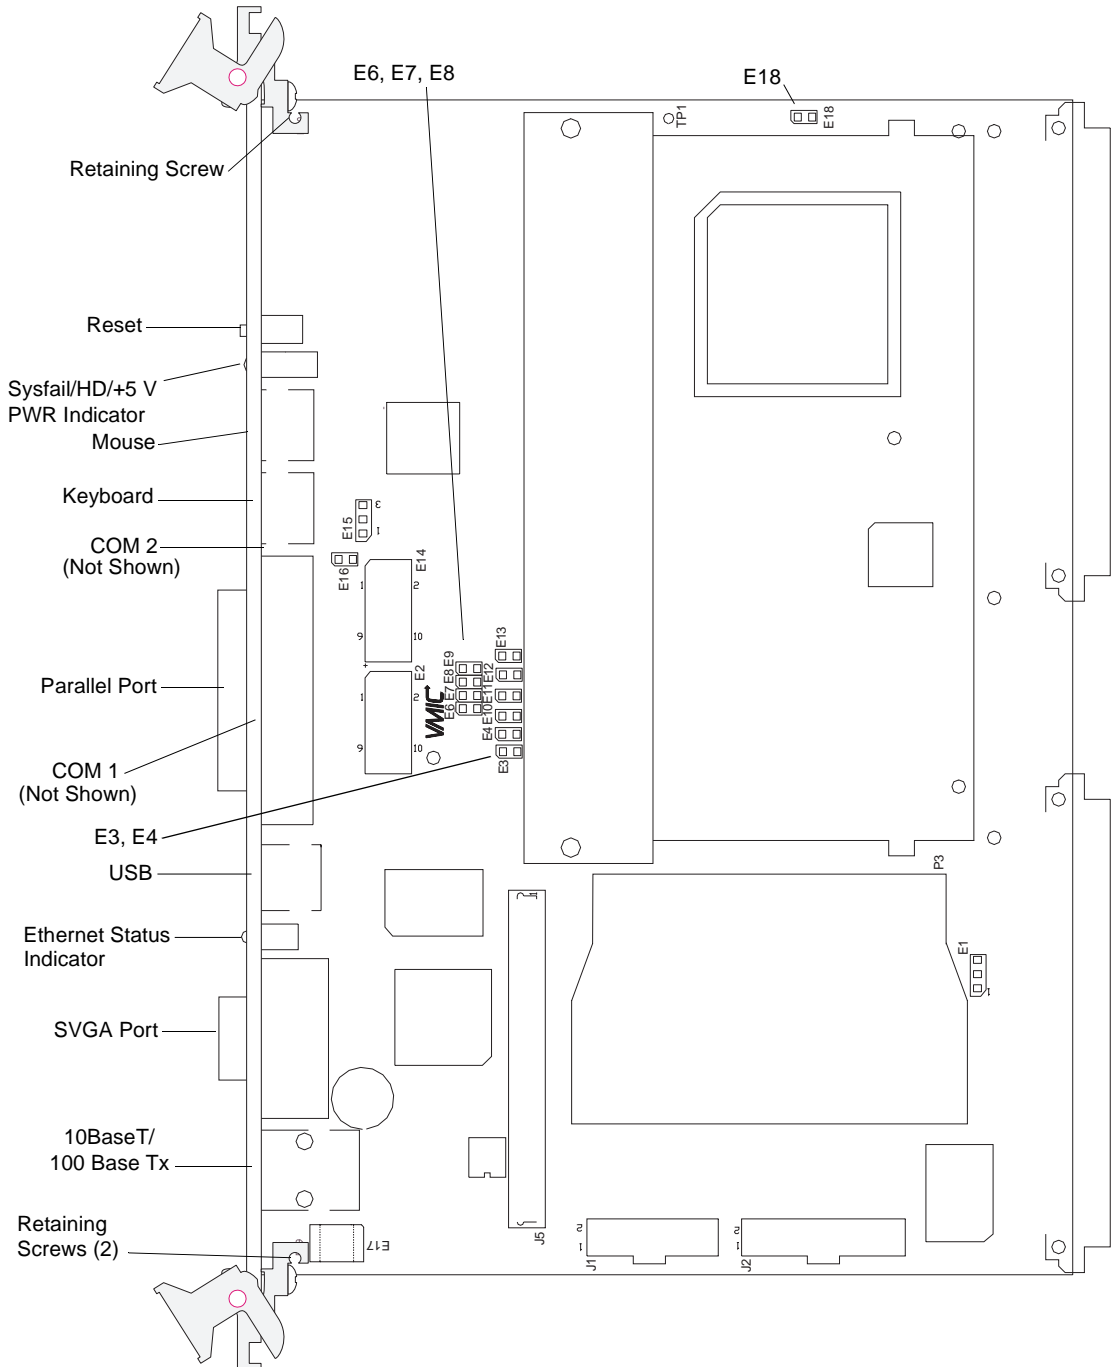

Figure 2-1 VMIVME-7696 CPU Board, I/O Port, and Jumper Locations (Rev A)
The VMIVME-7696 is tested for system operation and shipped with factory-installed header jumpers. The physical location of the jumpers and connectors for the dual board CPU are illustrated in Figure 2-1 on page 33 and Figure 2-4 on page 42. The definitions of the CPU board jumpers and connectors are included in Table 2-1 through Table 2-16. The Tundra Universe II-based PCI-to-VMEbus Bridge jumper configuration is discussed in a following section.
3. Remove the 2 front panel screws from the bottom of the front panel (see Figure 2-1).